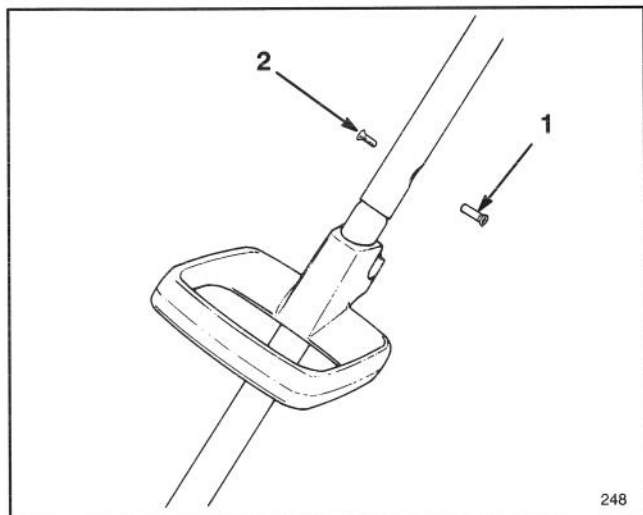

Figure 3
4. Secure upper and lower tubes by inserting countersunk nut and slotted screw (supplied in loose parts bag) through the aligned holes in tubing (Fig. 3).
3. Slide lower tube into upper tube until screw holes are aligned (Fig. 3).